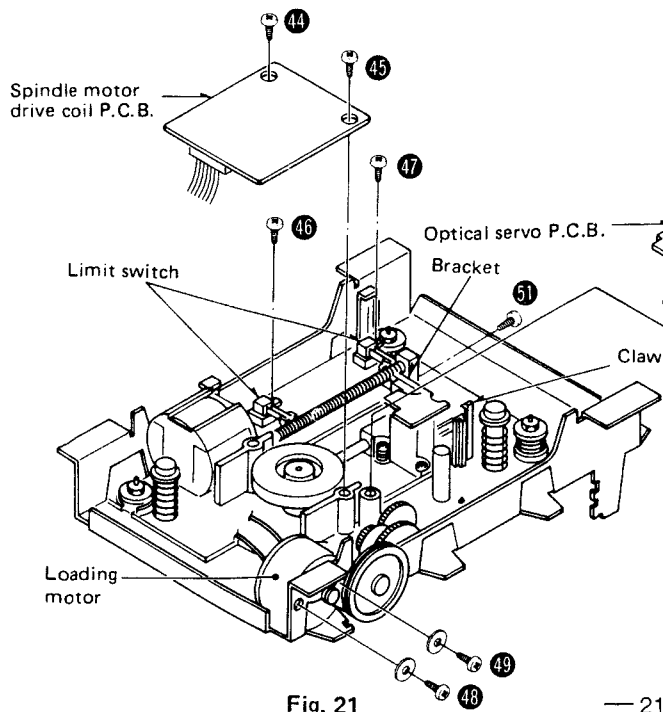

Fig. 21
2. Turn over the traverse unit and remove the optical servo P.C.B. setscrew [Fig. 21 : ④③].
4. Remove the 2 setscrews [Fig. 21 : ④④, ④⑤] of spindle motor drive coil P.C.B.
2. Remove the 2 setscrews [Fig. 21 : ④⑥, ④⑦] of limit switch, and unsolder the limit switch.
3. Remove the 2 setscrews [Fig. 21 : ④⑧, ④⑨] of loading motor, and unsolder the motor leads.
4. Remove the bracket setscrew [Fig. 21 : 51] of pickup to remove the bracket.